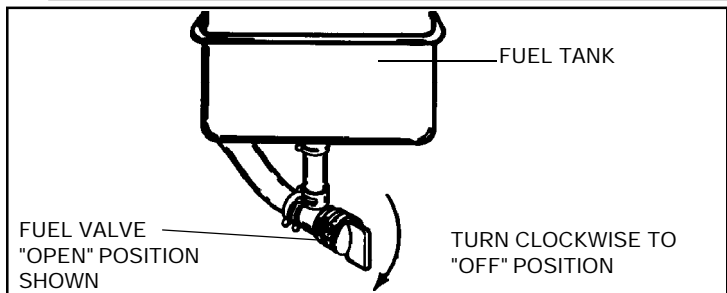

Figure 2
- E. Be sure fuel valve (if so equipped see Figure 2) is open.